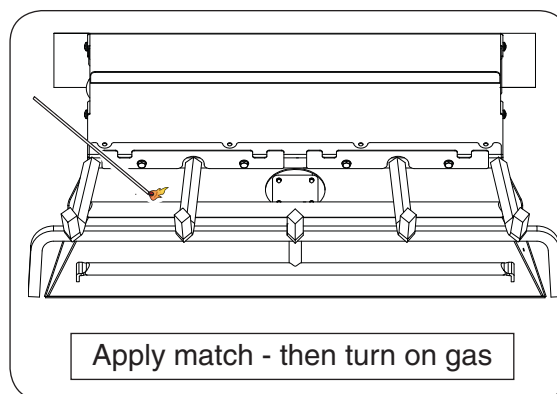

Fig. 12-1
3. Lay a lighted match on the center of the top burner (**do not hold the match in your hand**) or use a lighted long-stem match/long-necked butane lighter (Fig. 12-1).